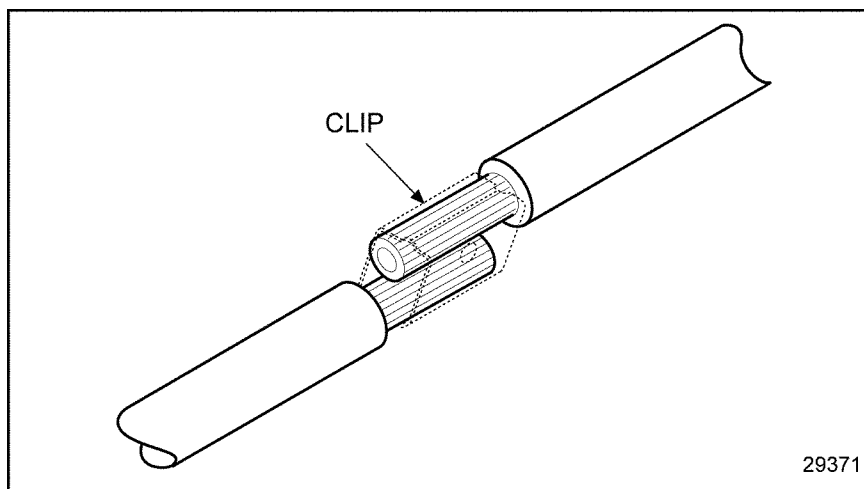

Figure 3-52 Securing the Leads With a Clip
2. Secure the leads with a commercially available clip and hand tool. See Figure 3-52.